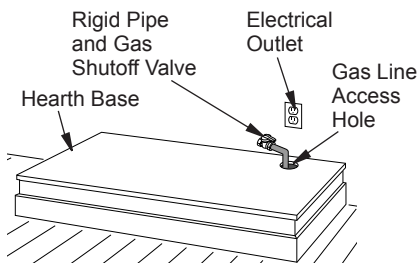

Figure 20 - Placing Hearth Base Accessory Against Wall
2. If blower is installed, install a properly grounded, 120 volt three-prong electrical outlet at fireplace location if an outlet is not there. If possible, locate outlet so cabinet mantel will cover it when installed (see Figure 20).
3. Place hearth base against wall at installation location. Cut an access hole in hearth base to run gas line to fireplace (see Figure 20). Make sure to locate access hole so cabinet mantel will cover it when installed. *Note:* You can secure base to floor using wood screws. Countersink screw heads and putty over.